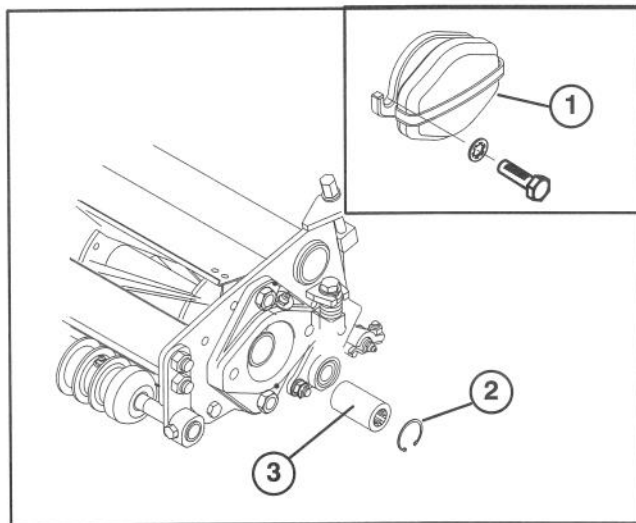

Figure 7
INSTALL CUTTING UNITS (Fig. 7–9)
- Remove (2) capscrews and lockwashers securing counter weight to left end of cutting unit. Remove counter weight (Fig. 7, inset).